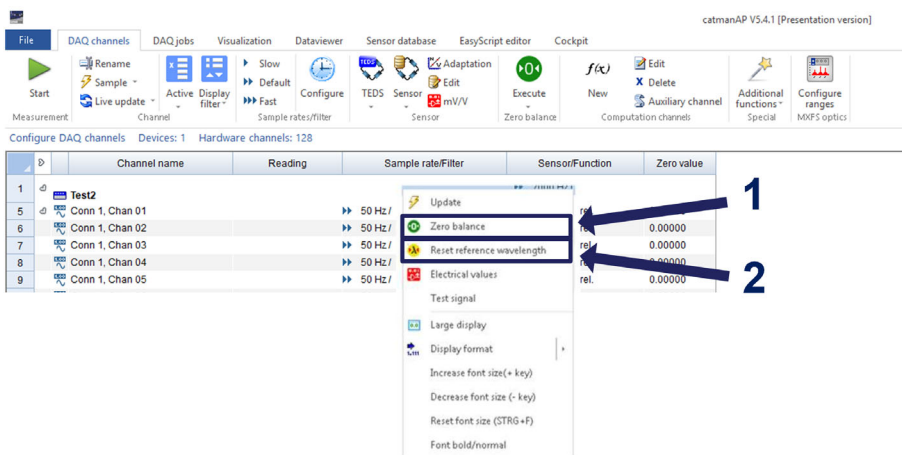

Fig. 5.28 Zero balance and reset reference wavelength
- Alternatively, right click on the line to zero and select **Zero Balance** option (number 1 in Fig. 5.28).
- ▶ Right click on the line to reset and select **Reset reference wavelength** option (number 2 in Fig. 5.28).